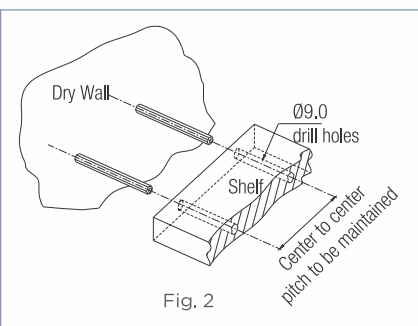

Fig. 2
2. Maintain center to center pitch between rods and drill $\varnothing 9.0$ mm holes in the shelf (Refer Fig. 2).